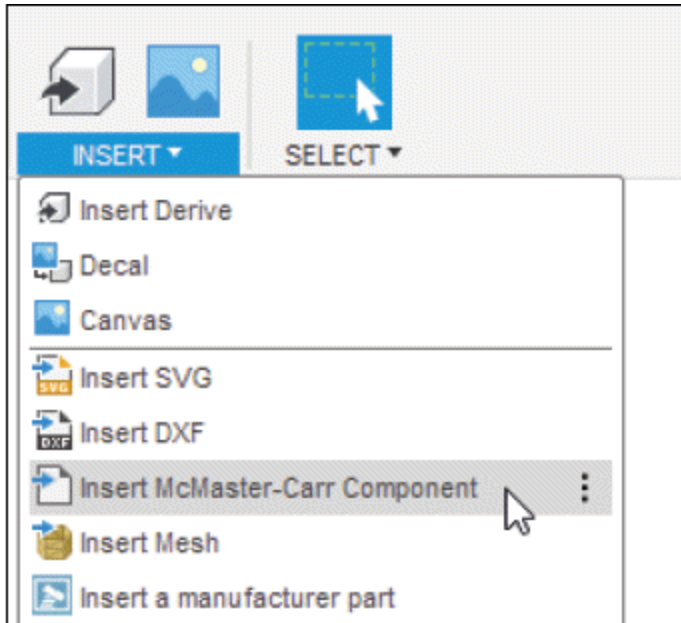
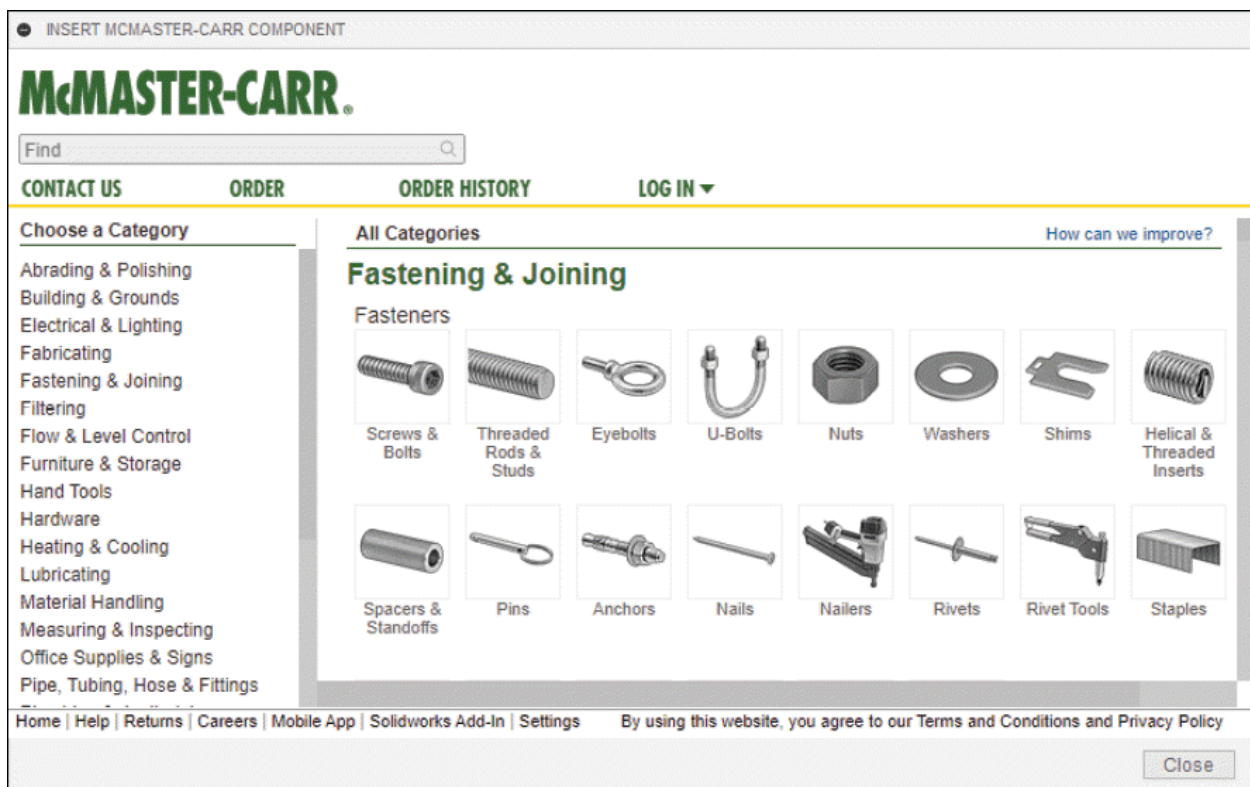

Figure-21. Insert McMaster Carr Component tool
Figure-22. INSERT MCMMASTER CARR COMPONENT window
- Click on the **Insert McMaster-Carr Component** tool from the **INSERT** drop-down in the **Toolbar**; refer to Figure-21. The **INSERT MCMASTER-CARR COMPONENT** window will be displayed; refer to Figure-22.